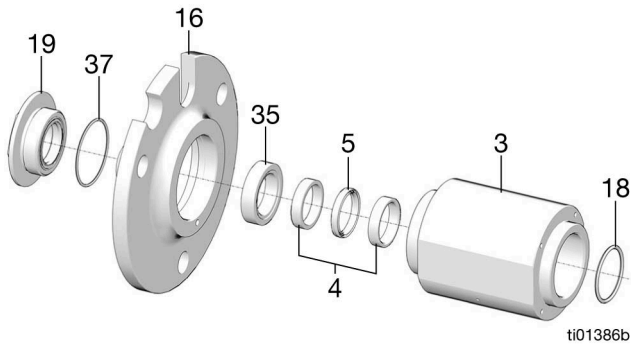

FIG. 16
17. Remove the outlet housing adapter (16) (FIG. 16).
18. Remove the spacer (35), throat seal (5), and the throat seal back-up rings (4) (FIG. 16).
19. Remove the o-ring face seal (18) (FIG. 16).